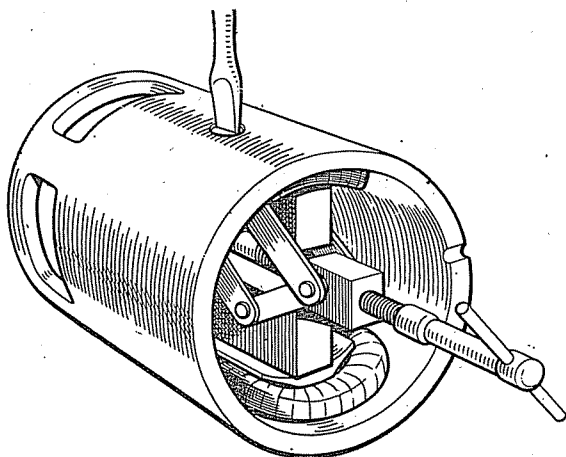

Fig. 15—Pole Shoe and Field Coil Assembly.
In either case, unless a substitute generator is available, the field coils must be replaced. To do this, carry out the procedure outlined below, using a pole shoe expander and a wheel-operated screwdriver (See Figure 15 and 16).
- (6) Locate the pole shoes and field coils by lightly tightening the fixing screw.
- (7) Insert the pole shoe expander (Figure 15) open it to the fullest extent and tighten the screws.